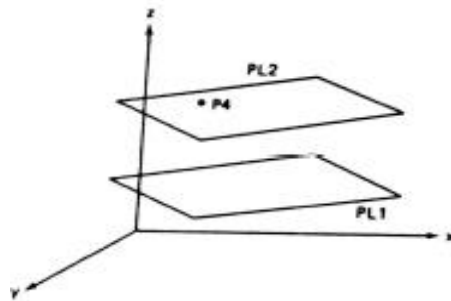

FIGURE A8.13
2. By a point and being parallel to another plane. See Figure A8.13.